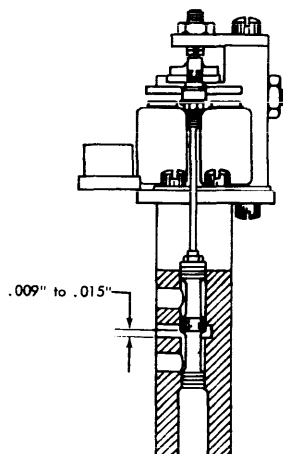

Figure 48. Space Valve in Stop Position
- a. This should result in .009" to .015" clearance between the bottom of the valve and the lower surface of the rectangular port with the stop magnet energized and the armature in the stop position (Figure 48).